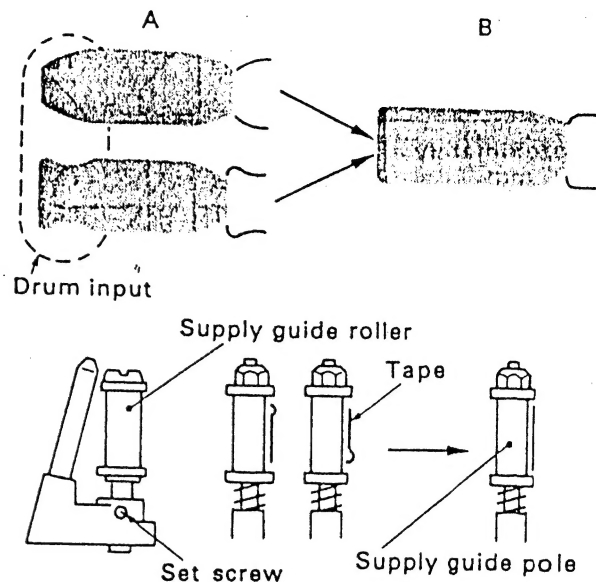

Fig.18 Drum input adjustment
- Refer to Fig.18. Examples of incorrect waveform are shown by A. Use a slotted screwdriver to adjust the supply guide roller so that the rising portion (drum input portion) on the waveform becomes flat as shown by B.